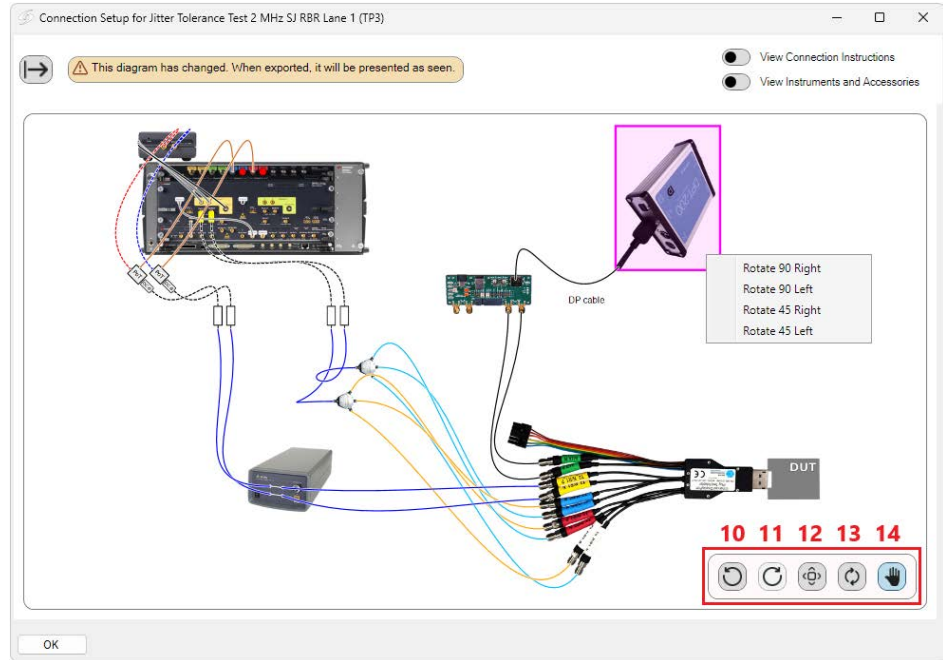

Figure 5-17 Example connection diagram dialog – Export Mode view
- 4 Export Mode:** Click here to change the layout of the connection diagram before exporting it (Figure 5-17).
In the Export Mode view (Figure 5-17) you can change the layout of the connection diagram before exporting it.
- To **rotate** an instrument: Double left click to select an instrument, then right click. Select the required rotation from the pop-up menu (see Figure 5-17).